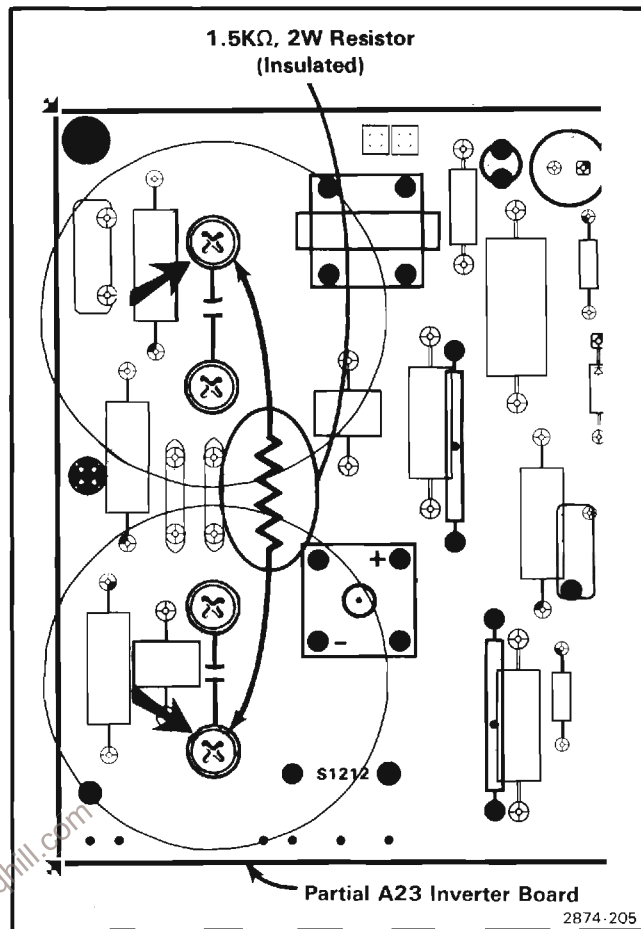

Figure 3-7. Location of screws used for discharging line storage capacitors.
6. When a low supply voltage is found, disconnect the 7854 from the power source and discharge the line storage capacitors (Fig. 3-7) following the procedure given under Access to Components in the Power-Supply Unit. Check for shorted components in the suspected power supply; also check the filter capacitors for leakage.
1. Disconnect the 7854 from the variable autotransformer and discharge the line storage capacitors (Fig. 3-7) following the procedure given under Access to Components in the Power-Supply Unit.
4. Attach the test probe from the digital multimeter to one of the screws used to discharge C16 and C17 (see Fig. 3-7). Connect the other test lead to ground. Set the variable autotransformer for 20 volts and turn the 7854 on.